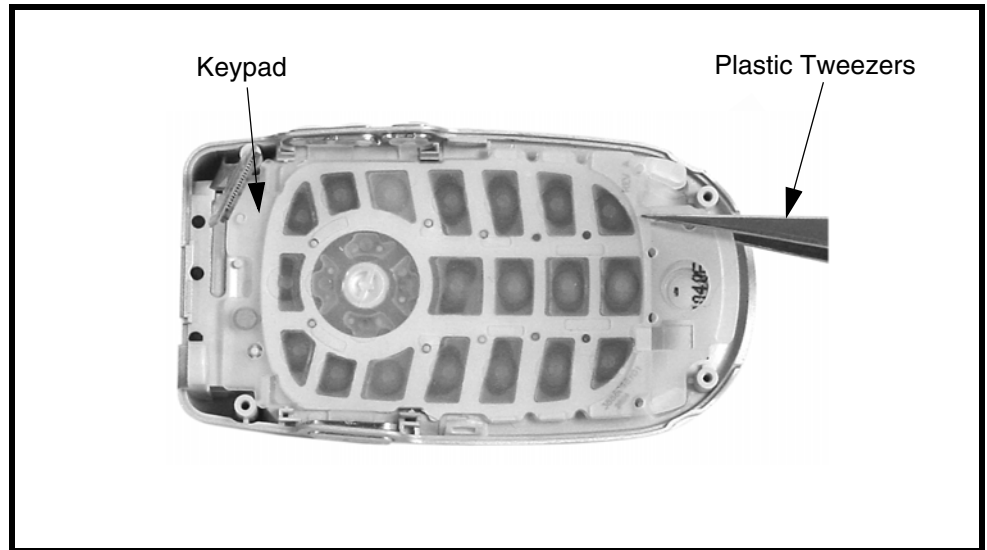

Figure 10. Removing and Replacing the Keypad
2. Using plastic tweezers, gently lift up the keypad and remove it from the front housing as shown in Figure 10.